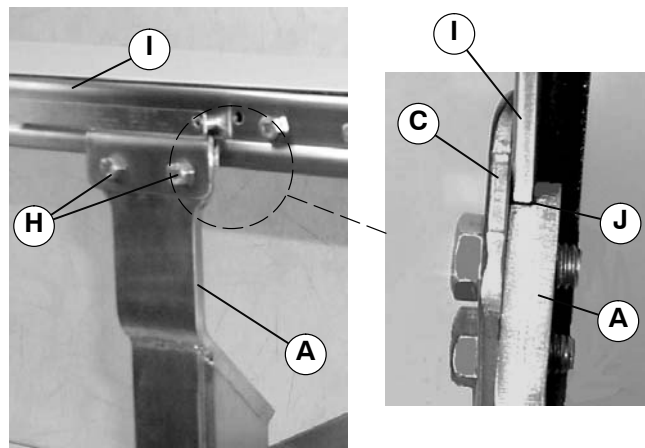

Figure 3
NOTE: Make sure conveyor (I of Figure 3) is seated between clamp plate (C) and lip (J) at top of stand (A) before tightening clamp plate screws.